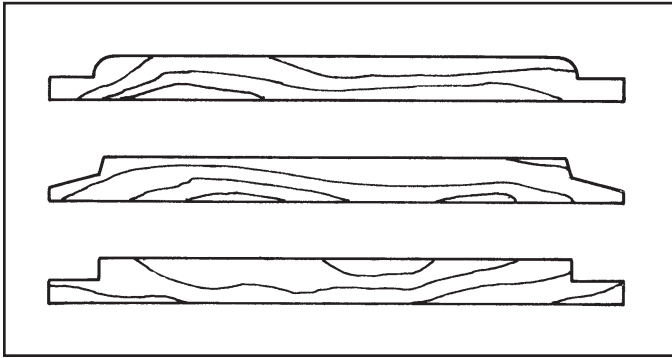

Figure 3
8. Using your router, create raised center panels F, H, AA and EE. See Figure 3.